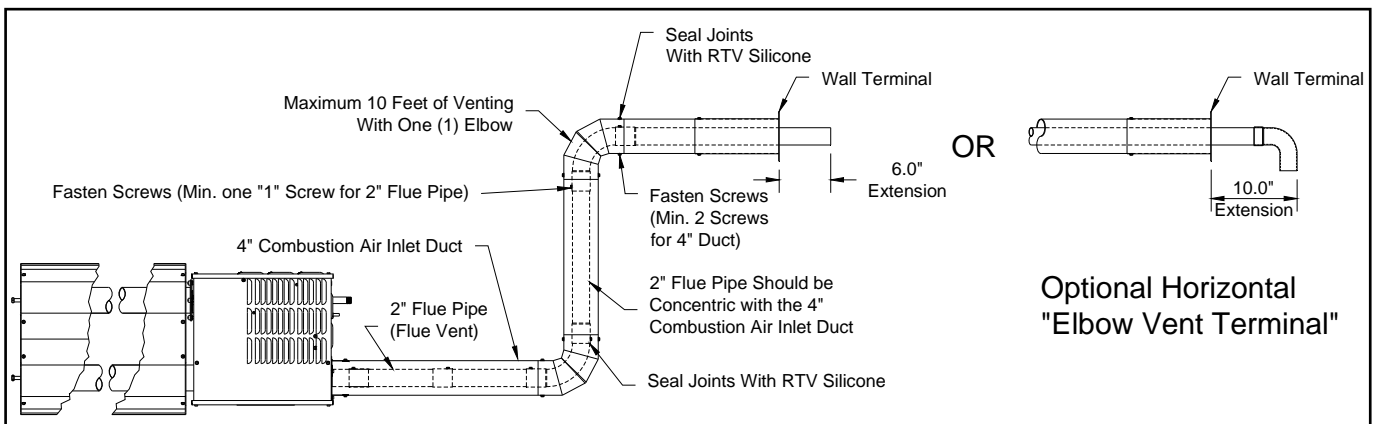
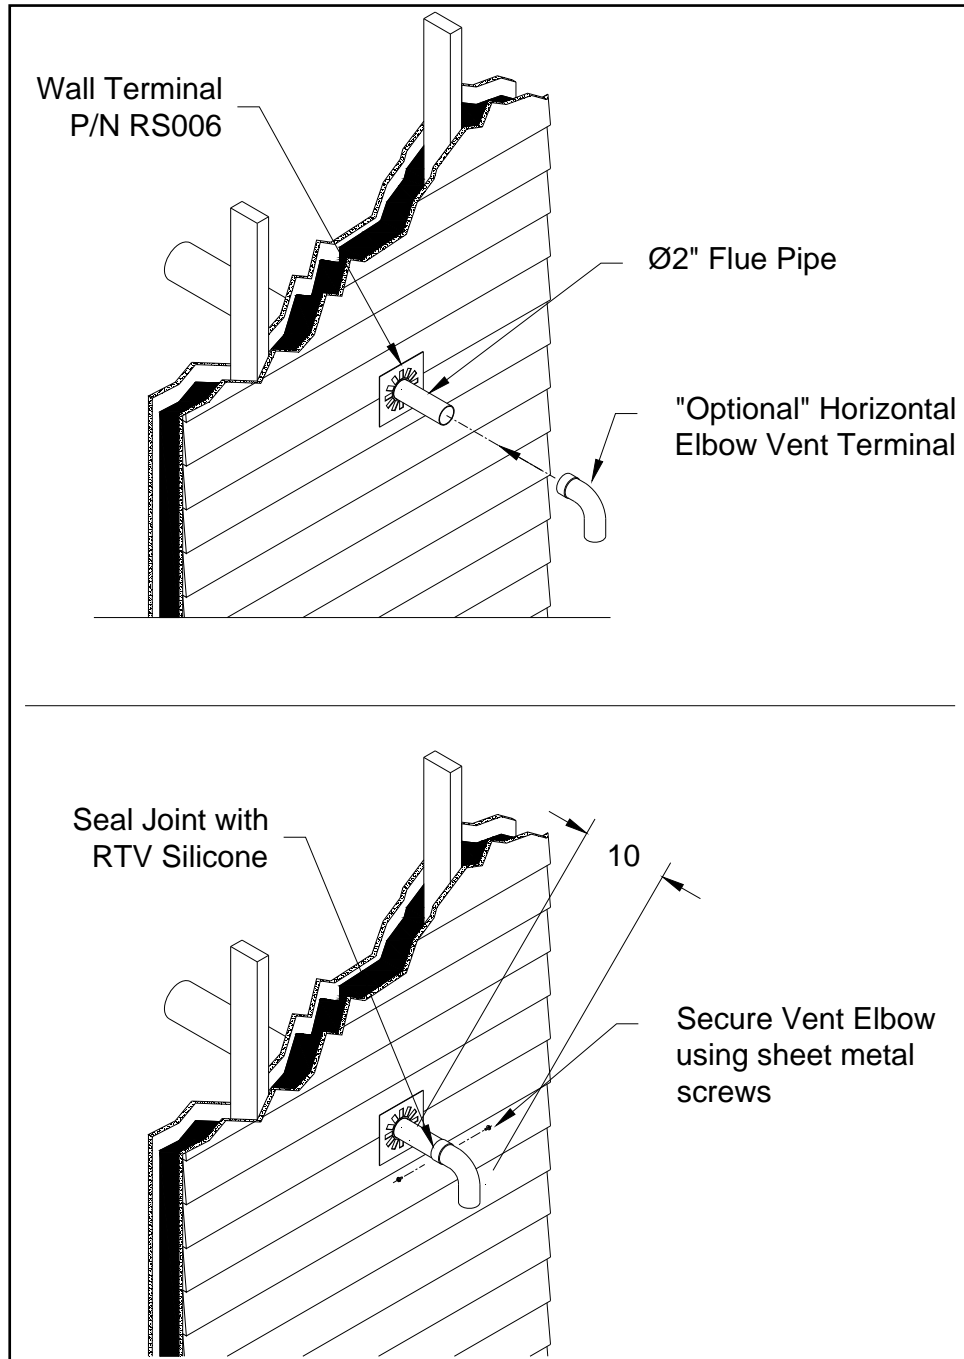

Figure 12: Venting / Combustion Air Ducting
Figure 13: Optional Horizontal Elbow Vent Terminal / Installation.
The 2" inch flue pipe should extend a minimum of 6" inches beyond the end of the 4" inch wall terminal (for horizontally vented heaters only see Figure 12). Where the vent is under an eave the 2" vent pipe must have a minimum clearance of 7" from the centerline of the vent to the bottom of the eave, refer to
- An optional "Horizontal Elbow Vent Terminal" kit for horizontal venting is also available, refer to Figure 12 and Figure 13
- The 2"-inch flue vent is inside (concentric with) the 4" inch combustion air inlet duct. Each of the former must be seamless and all joints must be fastened with screws and sealed with GE RTV-106 high temperature sealant (or equivalent) refer to Figure 12. The exposed 4" combustion air intake pipe is zero clearance throughout its length.
The GR Models are approved to be used with an Elbow as a Horizontal Vent Terminal see Figure 13 for installation details..